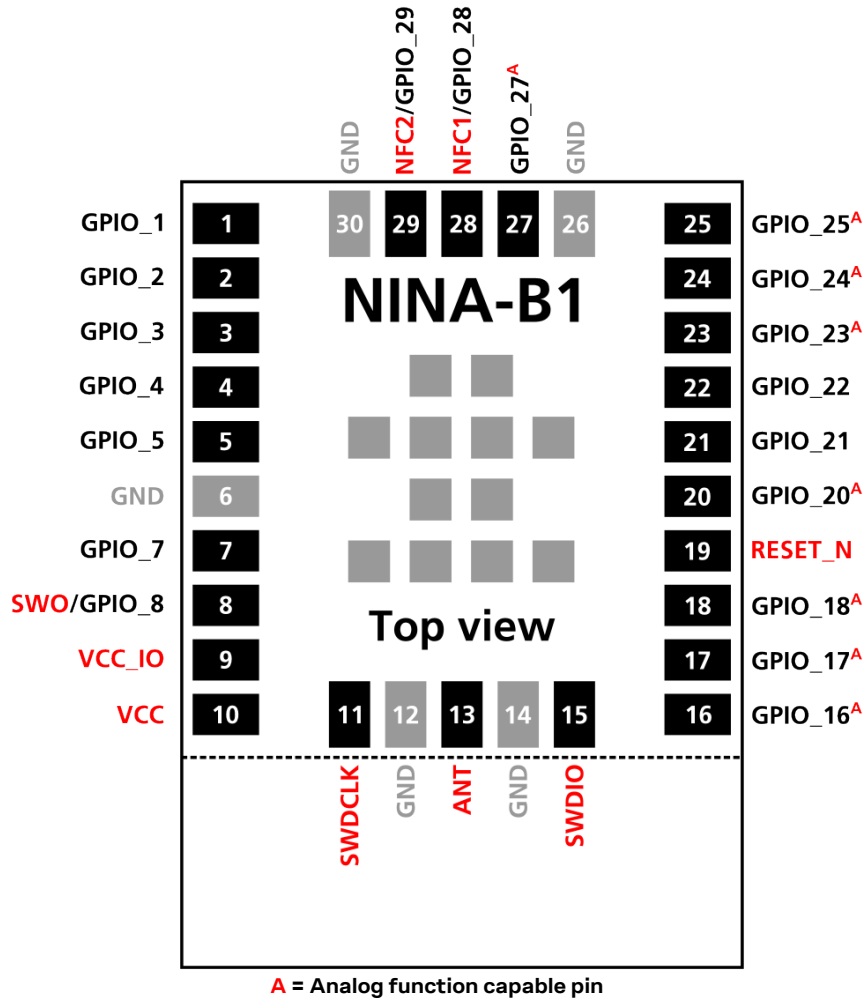

Figure 3: NINA-B1 series pin assignment (top view)
The pin-out described in Figure 3 below is an example pin-out that shows the module in an unconfigured state. Alternatively, if you use the u-blox connectivity software, refer to the pin-out in section 3.2.
The grey pins in the center of the modules are GND pins. The outline of NINA-B111 ends at the dotted line as shown in Figure 3, where the antenna area of NINA-B112 begins.
-  All digital or analog functions described in this data sheet may be freely assigned to any GPIO pin. Analog functions are limited to analog capable pins. Signals marked **red** in Figure 3 are not freely assignable but locked to a specific pin.